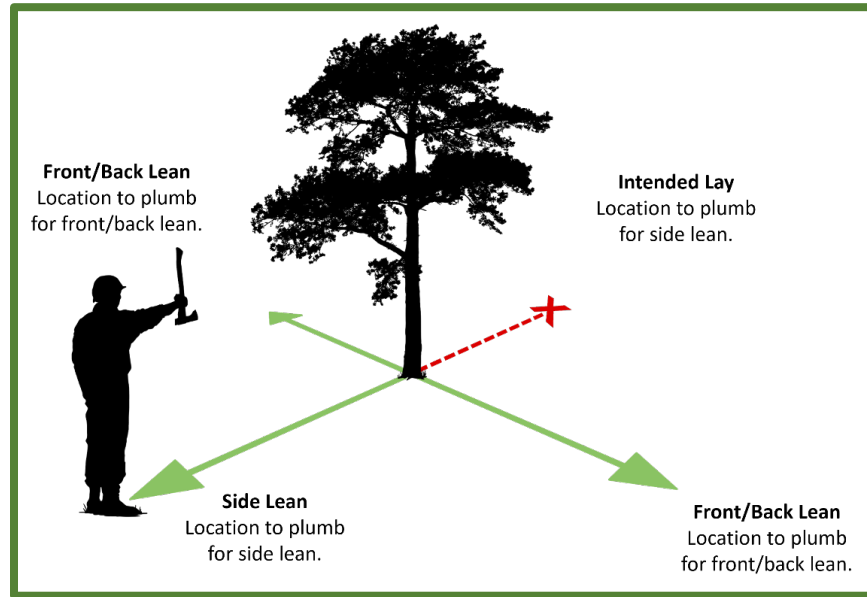

Figure 2.3.3—Determining types of lean.
- **If you use an ax** (figure 2.3.3), hold the ax by the handle with the head down. Grasp the ax as far from the head as practical and in such a manner that the ax can swing side to side. Sight down one side of the handle until it aligns with the center of the top of the tree and locate the spot on the bottom where the handle intersects with the ground or bole of the tree. The distance away from the center of the tree is the amount of lean.